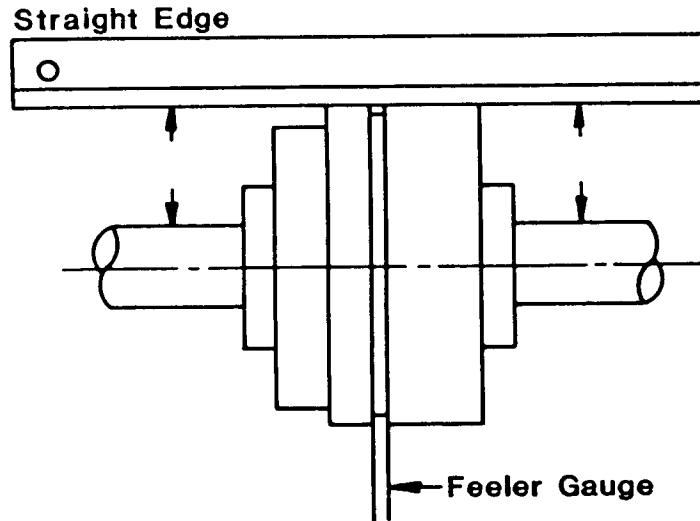

Figure 1. Coupling Alignment
7. Axial alignment of coupling is checked with a straight edge across both coupling halves (refer to figure 1). Measure distance A or B between straight edge and both shafts. Repeat measuring at two locations, 120 degrees apart, on periphery of coupling. The difference between three measurements for A or B must not exceed 0.005 inch at any of the three positions.
8. Angular alignment of coupling is checked with a feeler gauge (refer to figure 1). Measure distance between faces of both coupling halves, near their outside, at four locations spaced 90 degrees apart. The four measurements must be within  $\pm 0.005$  inch tolerance. The same tolerance applies if a dial indicator is used to check angular alignment. Fix dial indicator to one coupling half and take readings while other coupling half is rotated 360 degrees.